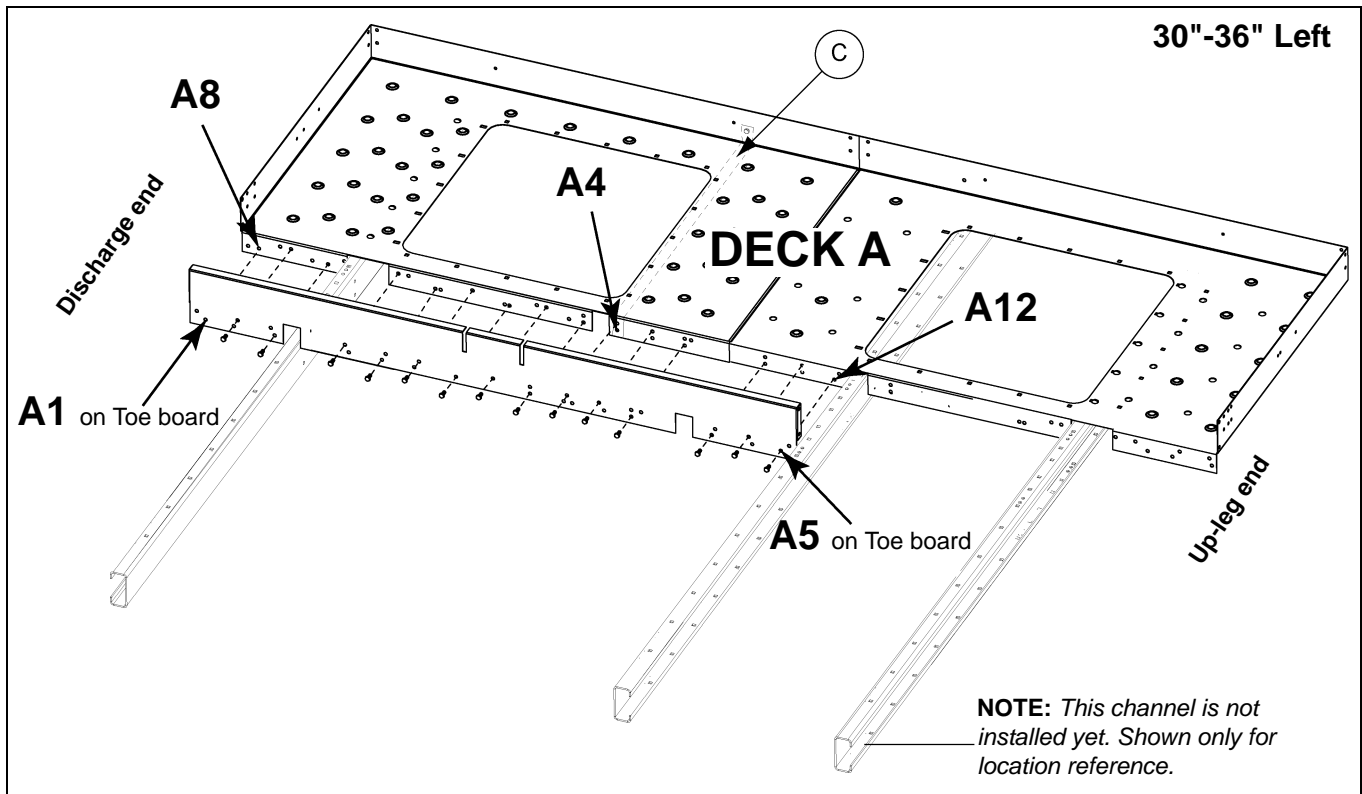

Figure 9I
NOTE: At this time, the head platform hatch deck support (HP36HDS) (C) should be installed **UNDER** Deck A. Line this up with hole **A4** on the deck flange near hatch opening and install at the same time attaching deck to toe board. (See Figure 9I on Page 71.)
5. After aligning the holes as described above, connect all holes between support channel and Deck A using 3/8" x 1" carriage bolts (S-3585) (A) with flange nuts (S-10028) (B).